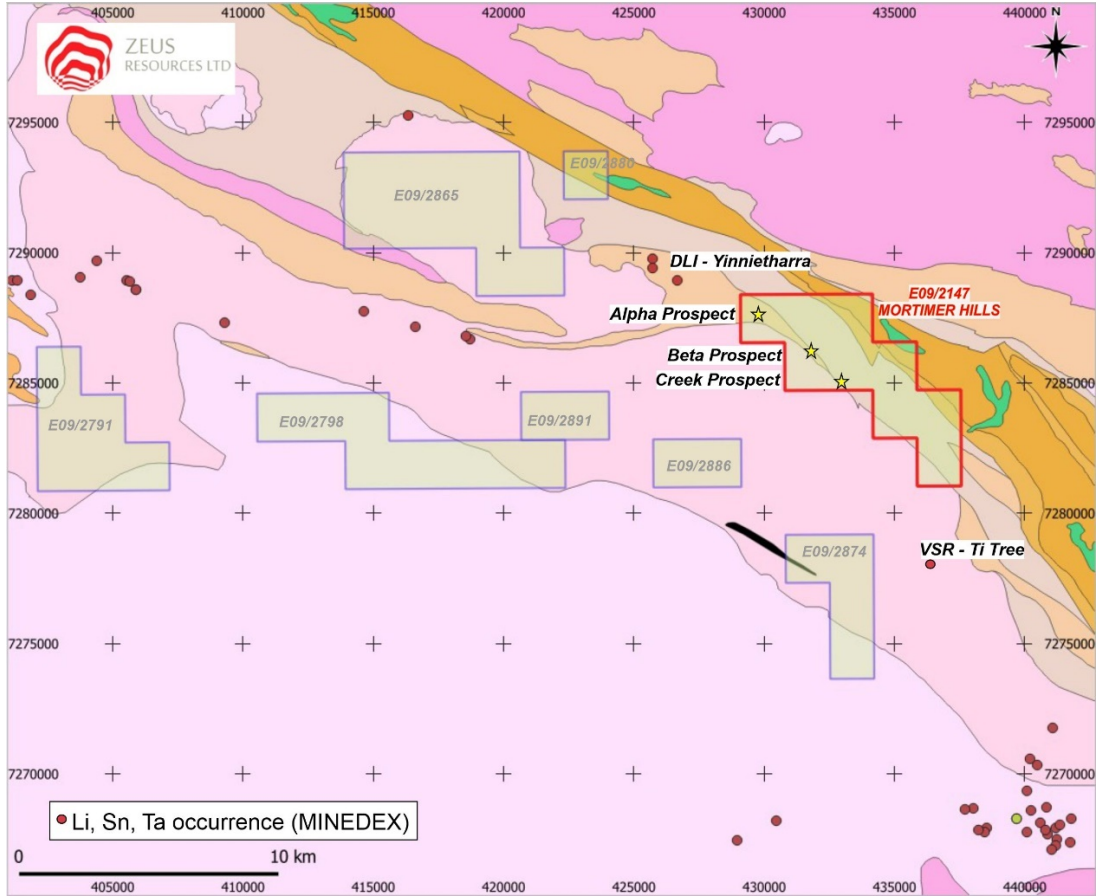

Figure 1: Location of Mortimer Hills Li Project (ZEU) tenements, Yinnietharra Li Project (DLI) and Ti Tree Prospect (VSR)
Phase 2 drilling program of 11 holes for a total depth of 1,260m intersected multiple thick pegmatites at Alpha and Creek prospects, Mortimer Hills Project (Figure 1) confirming the prospectivity of the Mortimer Hills tenement.
- The Phase 2 drilling program was focused on deeper drilling than the Phase 1 drilling program. The Company notes that neighbouring DLI's drilling on its Yinnietharra Project (Figure 1) on Zeus' western boundary encountered the bulk of its mineralised pegmatites at depths of between 50-200 m (See *DLI ASX Announcement, 23 June 2023*). The Company's Phase 2 drilling program targeting pegmatites between 50-150m received encouraging results.